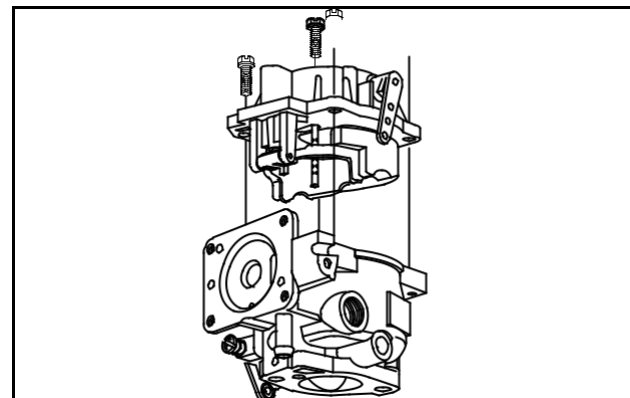

Fig. 31 – Install Upper Body
8. Assemble upper body to lower body, Fig. 31.